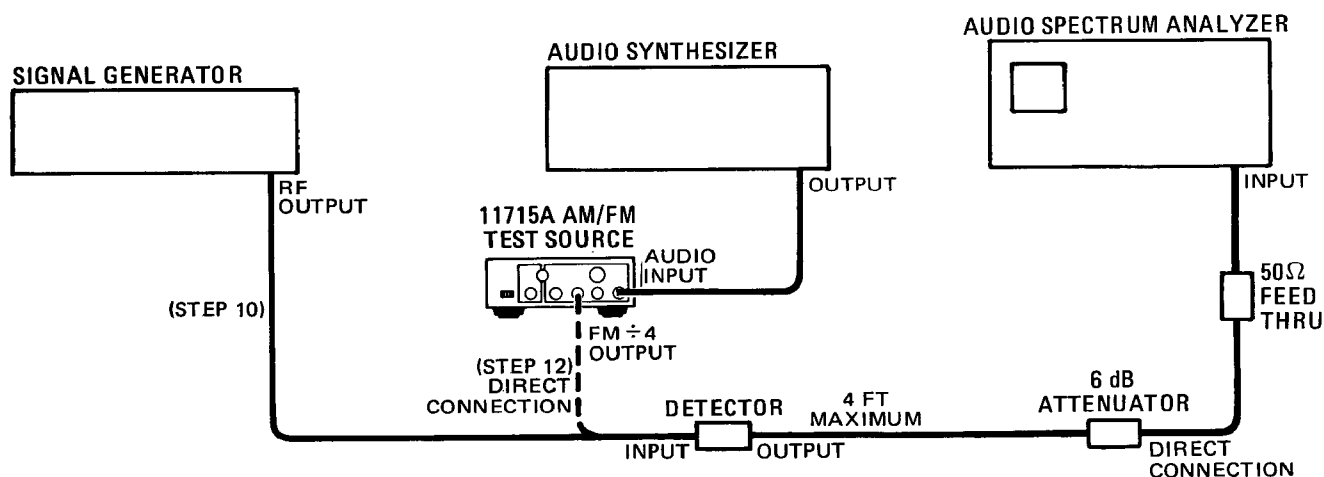

Figure 4-5. Incidental AM Test Setup
10. Without altering any of the settings of the equipment now set up, connect the equipment as shown in Figure 4-5. Connect the 50 Ω feed thru directly (no cable) to the spectrum analyzer's input. Connect the 6 dB attenuator directly to the feed thru.